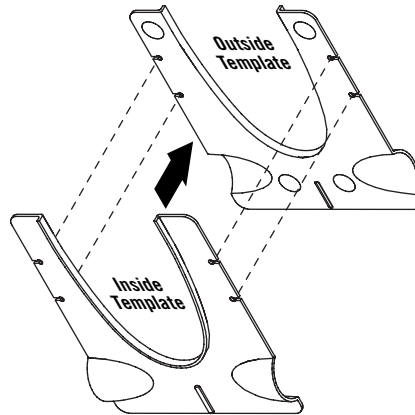

Figure 15. Positioning an Installation Template on a vehicle's inside rear window so it aligns with outside registration marks.
- Peel off the protective backing from each of the four adhesive dots on the second Installation Template. Lightly position it on the inside window so that its registration marks align with those on the outside template, as shown in Figure 15 on the next page.